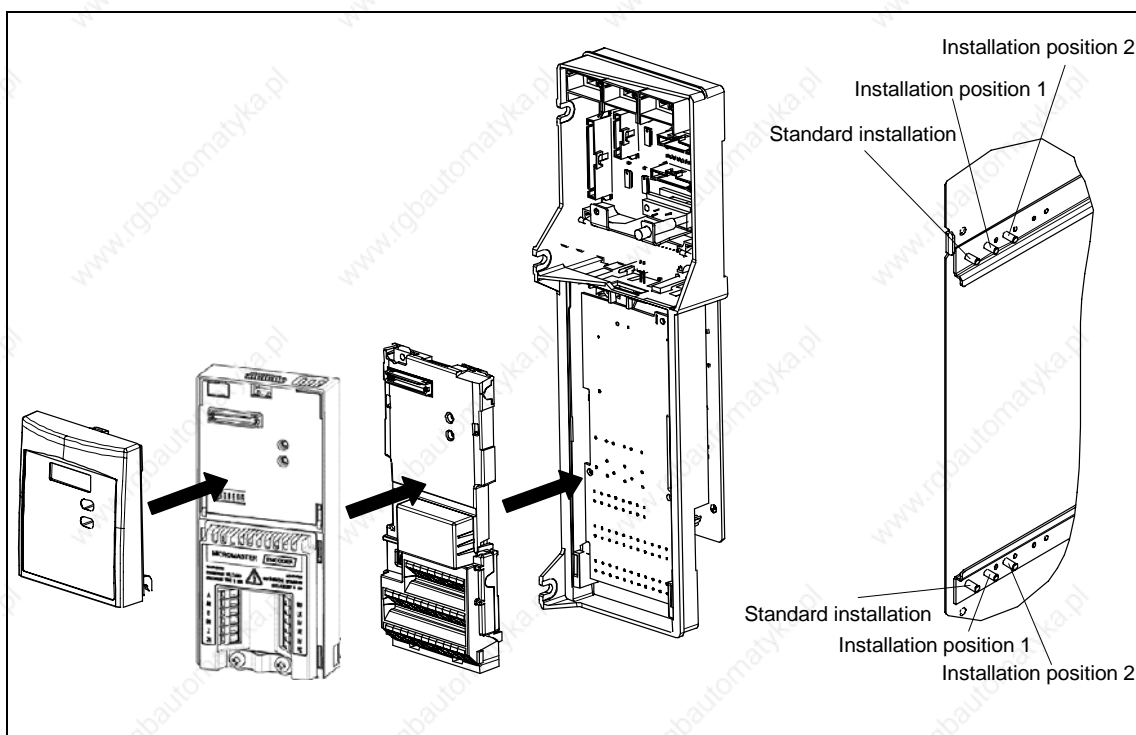

Fig. 2-7 Options for the electronic box
- Screw on electronic box in correct installation position as shown in Fig. 2-7